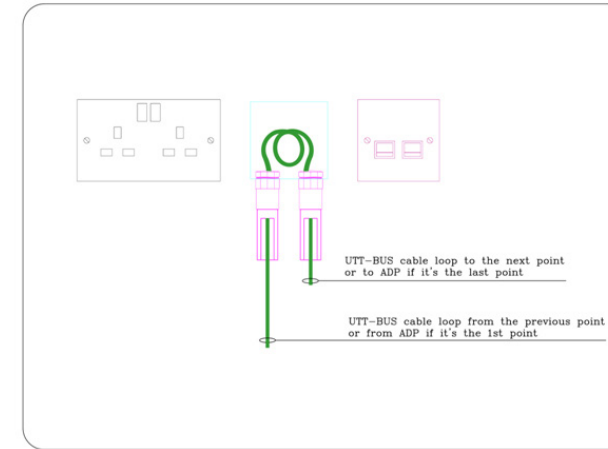

Figure1.3.12: E Outlet Layout
1.2.9 ENTERTAINMENT (E) OUTLET
- According to the telecom guidelines, at least 1 dual data socket is available in the living room zone at the TV location. Next to this data socket, an outlet labeled as E should be provided as shown in Figure 1.3.12 along with a dual power socket.